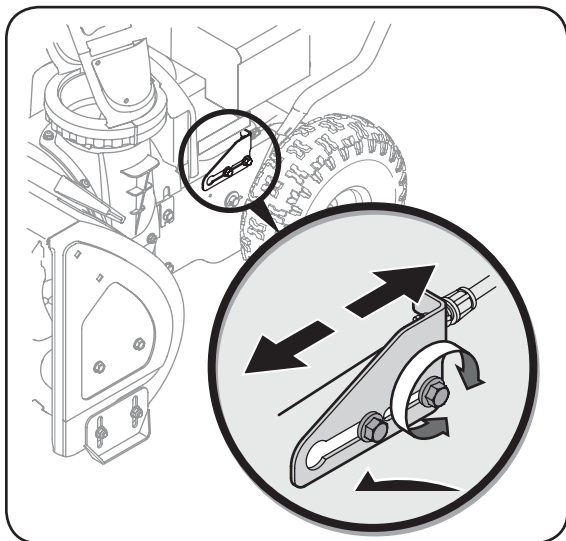

Figure 6
1. Loosen the rear hex bolt on the cable adjustment bracket. See Figure 6.